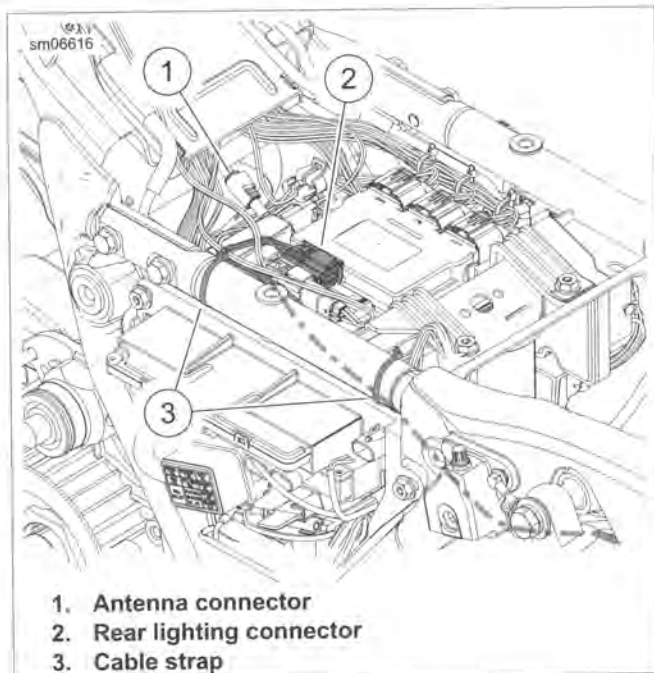
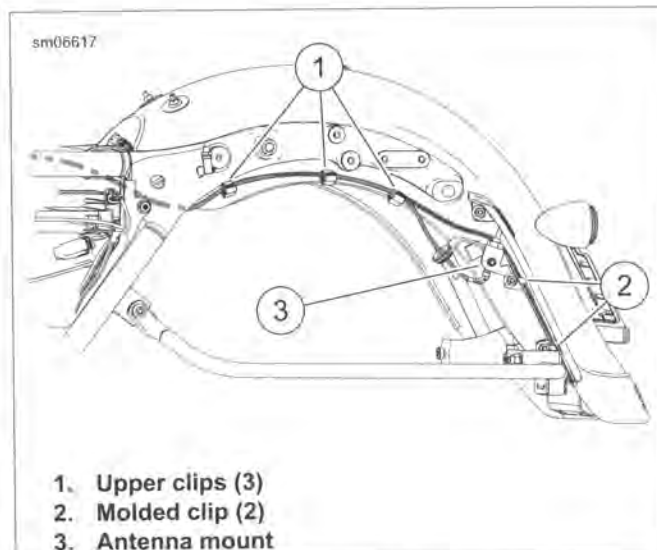

Figure 7-24. Rear Fender Lamps Harness and Antenna Cable Routing: FLHX/S
Figure 7-25. Rear Fender Lamps Harness and Antenna Cable: FLHX/S
2. See Figure 7-24. Cut cable strap (3).
3. Separate connector (2).
4. See Figure 7-25. Release harness from upper clips (1).
5. Release harness from molded clips (2) on fascia.
2. See Figure 7-24 and Figure 7-25. Route harness in approximate position, passing back under frame cross member and through opening in left caddy.
3. See Figure 7-25. Pass harness over antenna mount (3). Secure harness in molded clips (2) on inside of fascia. Connect to fender tip lamp. Pull harness up to remove slack near fender tip lamp.
4. Secure harness in three upper clips (1).
5. See Figure 7-24. Pull slack from harness. Secure rear lighting harness and antenna cable to left upper frame with new cable strap (3).
6. Mate connector (2). Secure connector housing to upper caddy.